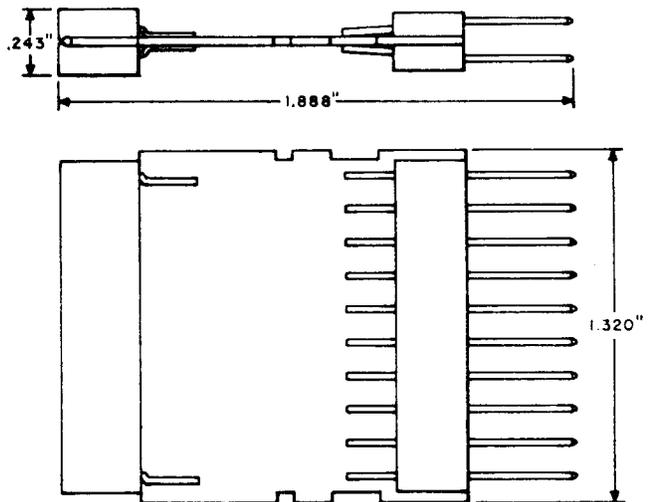

Fig. 7—794A Extender Tool
2.15 794A: The 794A extender tool (Fig. 7) is used on the No. 942- and 943-type connectors.